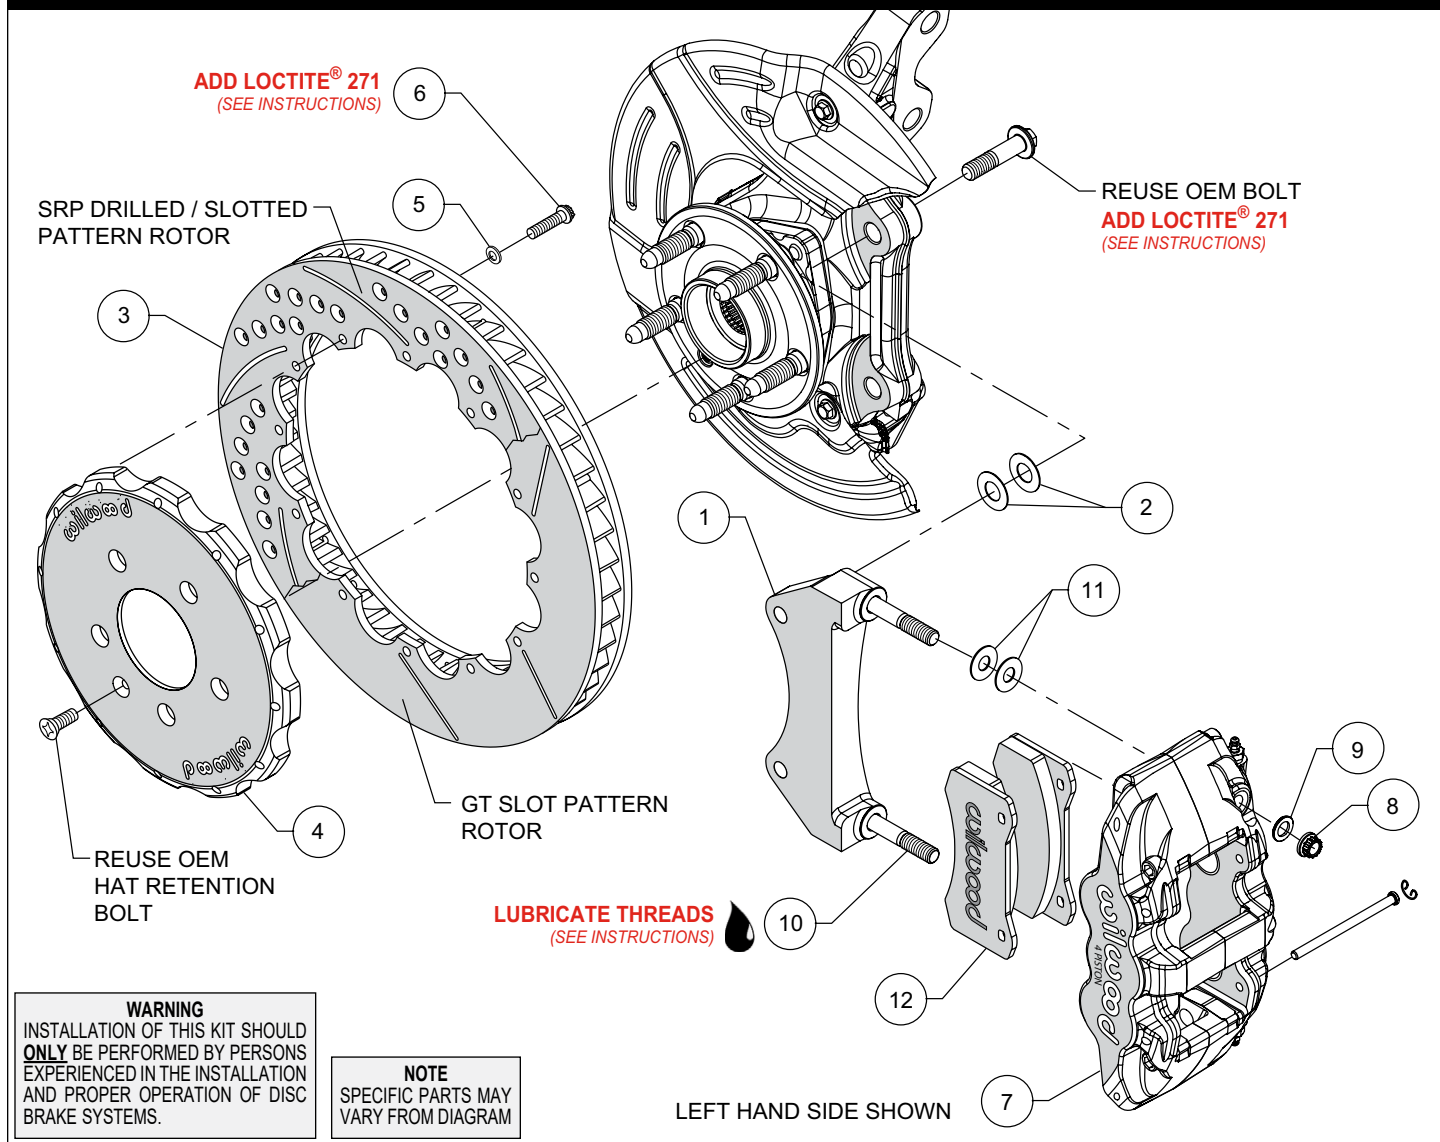
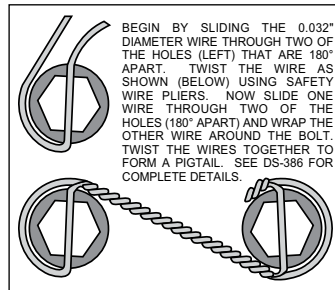

Figure 1. Typical Installation Configuration
Figure 3. Safety Wire Diagram
Assembly Instructions (numbers in parenthesis refer to the parts list and Figure 1 on the preceding pages):
- The caliper mount bracket (1) should initially be installed with clean, dry threads on the mounting bolts. Orient the bracket as shown in Figure 1 and install using the saved OEM caliper mount bolts. Initially place two .029" thick shims (2) on each bolt between the bracket and upright, Figure 1 and Photo 1. Temporarily tighten the mounting bolts. **NOTE: The bracket must fit squarely against the mount bosses on the upright.** Inspect for interference from casting irregularities, machining ridges, burrs, etc. Later, after the caliper alignment has been checked, the mount bolts will be secured using red *Loctite*® 271.
- Orient the rotor (3) and the hat (4) as shown in Figure 1 and Photo 2. Attach rotor to hat using bolts (6) and washers (5). Apply red *Loctite*® 271 to the bolt threads and torque to 155 in-lb using a criss-cross pattern. For an added measure of security, the bolts may be safety wired using standard 0.032 inch diameter stainless steel safety wire as shown in Figure 3. Please refer to Wilwood's data sheet DS-386 (available at www.wilwood.com/Pdf/DataSheets/ds386.pdf) for complete safety wire installation instructions.
- Slide the hat/rotor assembly onto the axle hub taking care to align the small countersunk hole in the hat (4) with the small threaded hole in the axle hub, Figure 1. **NOTE: The hat must fit flush against the axle hub flange or excessive rotor run out may result.** Install three lug nuts (finger tight) to keep the hat/rotor assembly in place while continuing with the installation.
- **NOTE: This kit contains distinct right and left hand calipers that must be mounted in a specific direction, as described below.** Lubricate the caliper mounting studs (10) with lightweight oil. Initially place two .030" thick shims (11) on each stud between the caliper and the bracket, as shown in Figure 1 and Photo 3. Mount the caliper (7) onto the bracket (1) using lock nuts (8) and washers (9), Figure 1. Temporarily tighten the lock nuts. Ensure that the caliper is mounted so the largest pistons are at the rotor exit end of the caliper, in relation to the direction of the rotor. View the rotor through the top opening of the caliper. The rotor should be centered in the caliper, Photo 4. If not, adjust by adding or subtracting shims (2) between the bracket and the upright. Always use the same amount of shims on each of the two mounting bolts. Once the caliper alignment is correct, remove the bracket mounting bolts one at a time, apply red *Loctite*® 271 to the threads, and torque to 65 ft-lbs.
- Remove the two pad retaining pins from the caliper (7) by carefully popping out the pin retaining clips and sliding out the pins. Insert the brake pads (12) into the caliper from the bottom, Figure 1 and Photo 5. With the friction material facing the rotor, secure the brake pads in place with the pad retaining pins and clips, Photo 6. Reinstall the caliper onto the caliper mounting bracket and temporarily tighten the lock nuts. Check that the top of the brake pad is flush with the outside diameter of the rotor, Photo 7. If not, adjust by adding or subtracting shims (11) between the caliper and the bracket. After the caliper pad height is set, torque the caliper lock nuts (12) to 47 ft-lb.